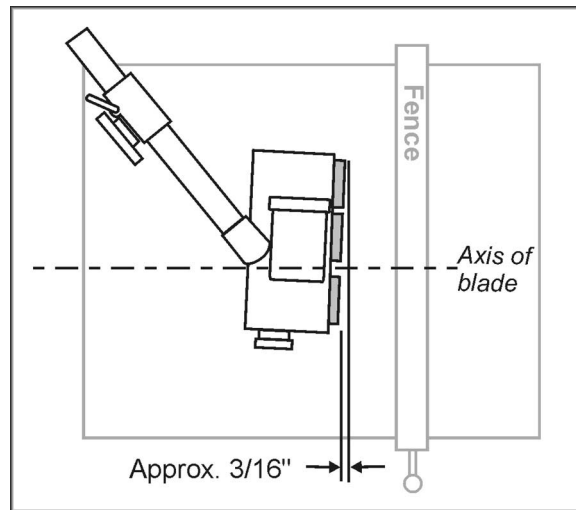

Figure 13
4. Position the Stock Feeder so that the axis of the saw blade lines up between the infeed roller and center roller. See Figure 13. This will allow the Stock Feeder to grip the near part of the workpiece as it enters the blade, as well as the offcut of the workpiece as it leaves the blade.
5. Rotate the Stock Feeder so that the direction of feed is angled slightly toward the fence by approximately $3/16"$ (5mm); that is, the outfeed roller should be slightly closer to the fence than the infeed roller. See Figure 13.